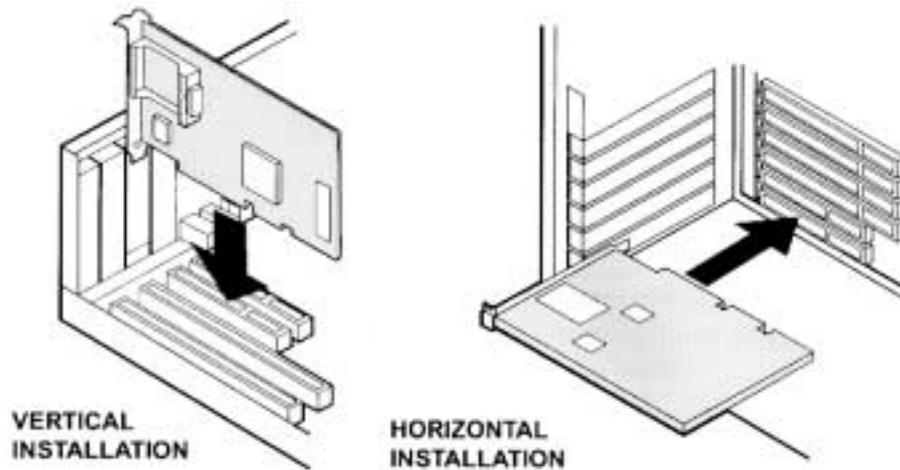

Figure 2-1. Installing Adapter
5. Insert the HP Fibre Channel Adapter into the slot until it is firmly seated. Refer to Figure 2-1. on page 6.